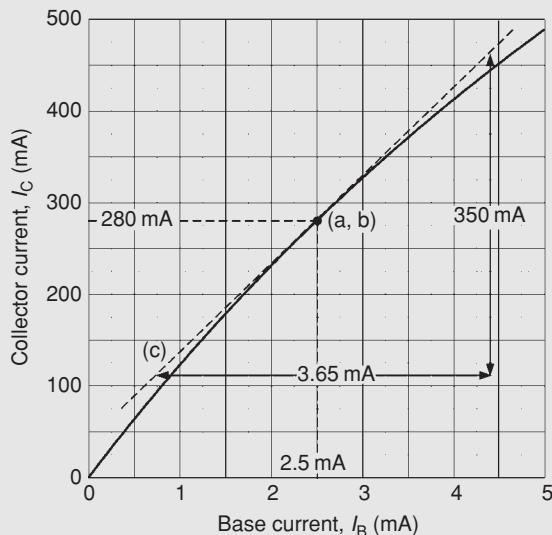

Figure 12.15
**Problem 5.** Figure 12.15 shows the transfer characteristic for an n-p-n silicon transistor. When the base current is 2.5 mA, determine (a) the value of collector current, (b) the static value of current gain, and (c) the dynamic value of current gain.
- (a) From Fig. 12.15, when  $I_B = 2.5$  mA, **collector current,  $I_C = 280$  mA** (see point (a, b) on the graph)
- (c) In Fig. 12.15, the tangent through the point (a, b) is shown by the broken straight line (c).